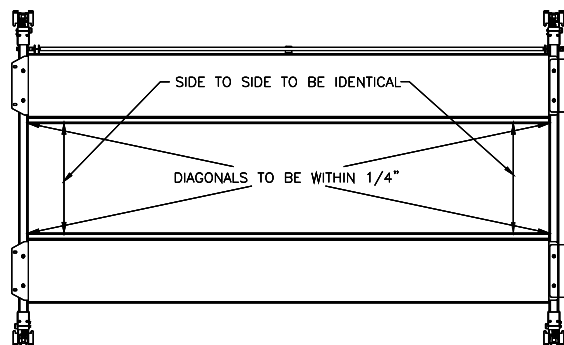

Fig 12 – Final Runway Positioning
- 18) Check the layout of the lift in the bay. If anchoring the lift, this is the last chance to make adjustments. Adjust the position of the runways so the distance from power side jack rail to idler side jack rail is the same at the front and the rear and the diagonal measurements from the front tip of one rail to rear tip of the opposite rail are within 1/4", Fig 12.